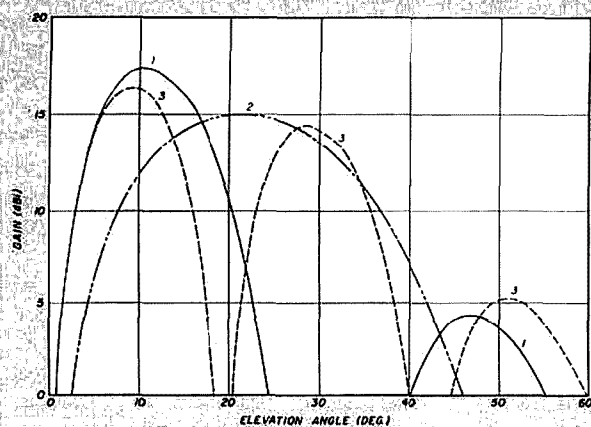
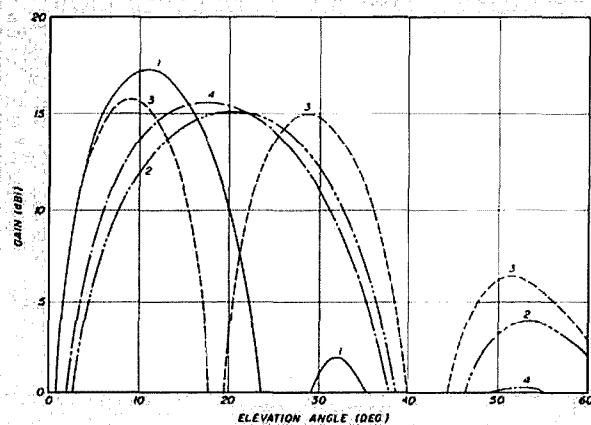
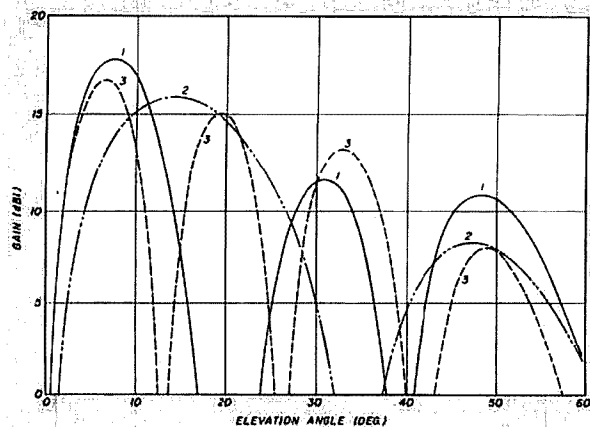
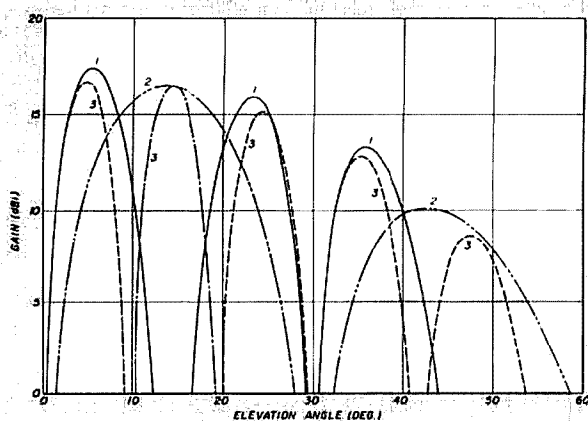

fig. 3D. Gain of a 6-element stack. Curve 1 — both, 2 — lower, 3 — upper.
fig. 3E. Gain of a 6-element stack. Curve 1 — both, 2 — lower, 3 — upper, 4 — lower only (upper physically absent).
fig. 3G. Gain of a 6-element stack. Curve 1 — both, 2 — lower, 3 — upper, 4 — lower only (upper physically absent).
fig. 3J. Gain of a 6-element stack. Curve 1 — both, 2 — lower, 3 — upper, 4 — lower only (upper physically absent).
3. The important (lowest) first-lobe gain is only weakly dependent on the placement of the lower antenna. The gain alone would favor  $HL$  somewhat above  $HU/2$  (see for example figs. 3G, 3H, and 3I); nevertheless, a lower placement (wider element spacing) will result in smaller beam interactions.
6. Any good (reasonably high) stacked array will benefit by the *Both, Lower, Upper* or *BLU* switch arrangement (see figs. 3G and 1) where at high angles a fill in the performance can be made (usually) using the lower antenna only. Best higher angle fill occurs when the placement of the lower antenna is at or preferably below  $HU/2$ . A good practical height is  $HU/3 > HL > HU/2$ . Note that a good fill obtained in this way slightly compromises maximum gain; however, this compromise is really not very serious.
8. A number of excellent stacked arrays can be chosen from these figures. As a good example note fig. 3D. I have operated a stack very much like this on 14 MHz for several years; experience shows this to be a superb performer even without a BLU switch arrangement. Figs. 3E and 3F also look very attractive, but the closer beam spacing results in increased variations in  $F/B$  properties and probably would require a BLU switch for best high-angle fill. For a higher stack note the excellent gain performances of figs. 3G through 3I. However, for any of these cases, a fill seems desirable by the use of a BLU switch; note that for best fill at some higher angles the *upper* antenna should be used. For a very high stack fig. 3J provides exceptional stacked gain, and by the additional use of the lower antenna (for fill), it accommodates radiation angles up to nearly 30 degrees. However, at the 30 degree angle the system performance is abysmal, giving essentially zero response for any setting of the BLU switch.
table 4. Performance of stack shown in fig. 3D vs. relative phase angle,  $\phi$ , of lower-to-upper drive current. Gain is in dBi, elevation angle in degrees, F/B in dB, R and X in ohms, and  $\phi$  in degrees.
more than two Yagi antennas. It is obvious that some additional performance improvement should be possible provided the mast height is sufficiently high. As examples I show computations for two different evenly spaced stacks shown in table 5. The first stack shows three of the 6-element Yagis evenly spaced with a top height of  $2.25\lambda$ , and the second shows four 6-element Yagis evenly spaced to a top height of  $3.0\lambda$ . Figs. 6 and 7 show the H-plane patterns for these two systems; they should be compared with figs. 3G and 3J, which are basically equivalent 2-Yagi stacks of comparable mast height. It is at once apparent from fig. 6 that the addition of the third Yagi antenna gives a main lobe gain over fig. 3G of 1.1 dB; all other characteristics are quite comparable. Likewise, fig. 7 shows that the two additional Yagi antennas give a main lobe gain increase of 1.9 dB over fig. 3J; again, all other characteristics are quite similar.
I shall conclude this article on stacking by referring again to the basic two-antenna stack shown in fig. 3D. Note that the F/B performance has deteriorated from the excellent free-space performance of the individual Yagi antennas of 48 dB to 22.7 dB. Analogous to the optimization of a single Yagi antenna over ground,1 it is possible to optimize the basic Yagi de-
sign for this stacked system. Table 6 shows the optimized parameters of the 6-element Yagi antenna first for free space and second for the stack of fig. 3D ( $HL = 0.6\lambda$ ,  $HU = 1.5\lambda$ ). Tables 7 and 8 show the swept-frequency performance of each of these cases close to the design frequency.
table 8. Performance of (fig. 3D) optimized, stacked 6-element Yagi over ground. (Specification in table 6.)